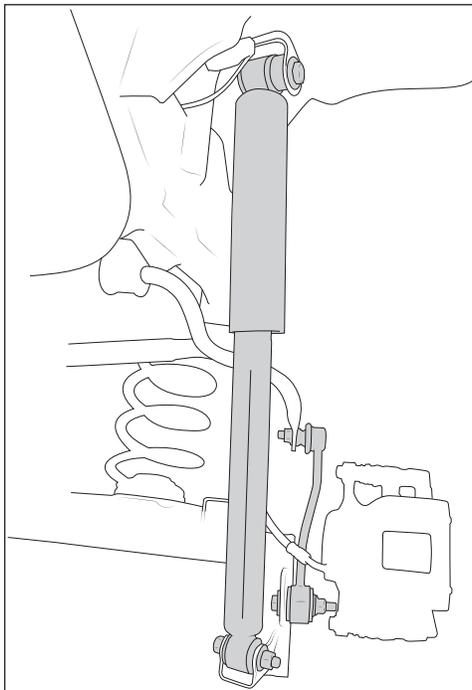
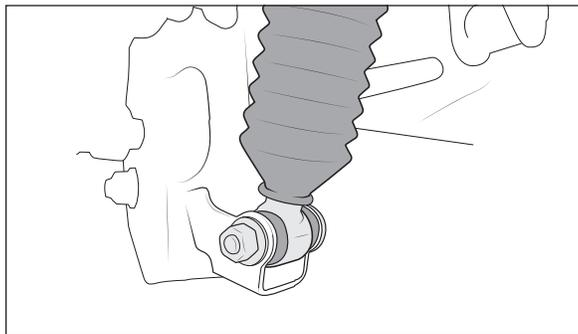

Figure 2
Figure 10
2. Remove the shocks and save hardware (Fig. 2).
- Remove the sway bar end links and save mounting hardware. End links will not be reused. Note the orientation of the end links, the new end links will be installed in the same way (see Fig. 2).
12. Re-install lower shock nut and bolt and tighten* (Fig 10). Install AEV sway bar end links (the longer of the 2 versions supplied in the kit) using factory hardware and tighten* (see Fig 2).